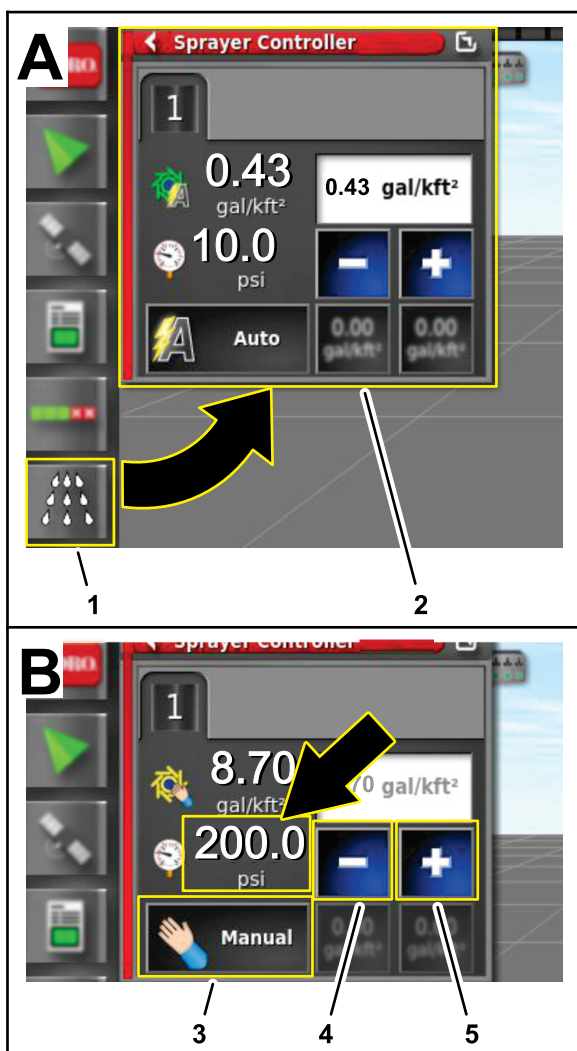

Figure 239
4. On the GeoLink control console, press the SPRAY RATE CONTROLLER icon (Figure 239).
5. In the spray rate controller dialog box, press the RATE CONTROL MODE icon until manual mode displays (Figure 239).
6. Use the decrement icon (-) or increment icon (+) to adjust the spray system pressure (Figure 239) to 13.75 bar (200 psi).